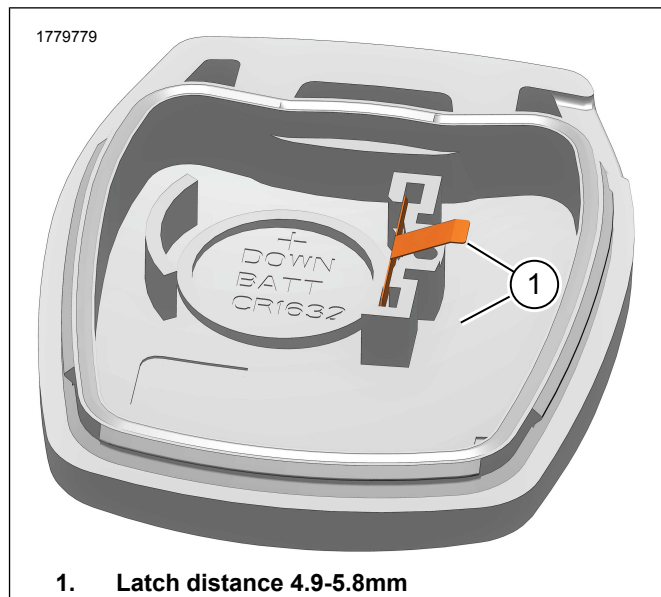

Figure 3. Metal Contact
- e. See Figure 3. If the terminal on the FOB cover is bent, it will not be able to make proper contact with the opposing circuit board. Make sure latch distance is 4.9-5.8mm (1) from the inside surface of the cover.